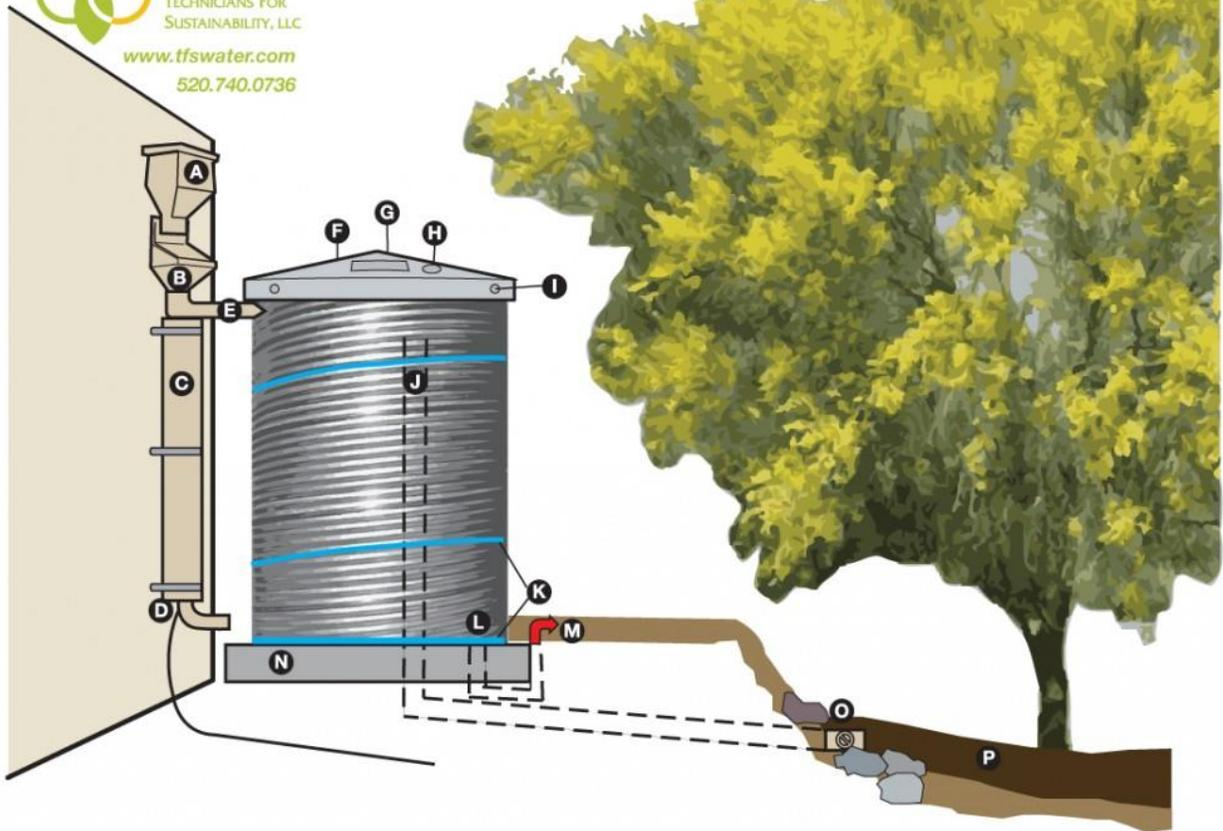

Figure 1 (<http://tfssolar.com/residential/rain-water/how-it-works-2/parts-of-an-aboveground-gravity-culvert-cistern>):⁸
Cistern construction (See Figure 1):
- Install a metal filter (i.e., a **rainhead**) to minimize the entry of organic matter and microorganisms into your storage tank (Fig. 1).
- Include a **first flush device** in the cistern installation to avoid capturing the first 15-20 minutes of rain after a dry spell (Fig. 1).² The **first flush** of roof runoff contains the bulk of pollutants that have accumulated.
- A **cleanout** pipe (note: *not* shown in Fig. 1) should be installed at the very bottom of the cistern to completely empty the tank during cleanings. We recommend the following features: